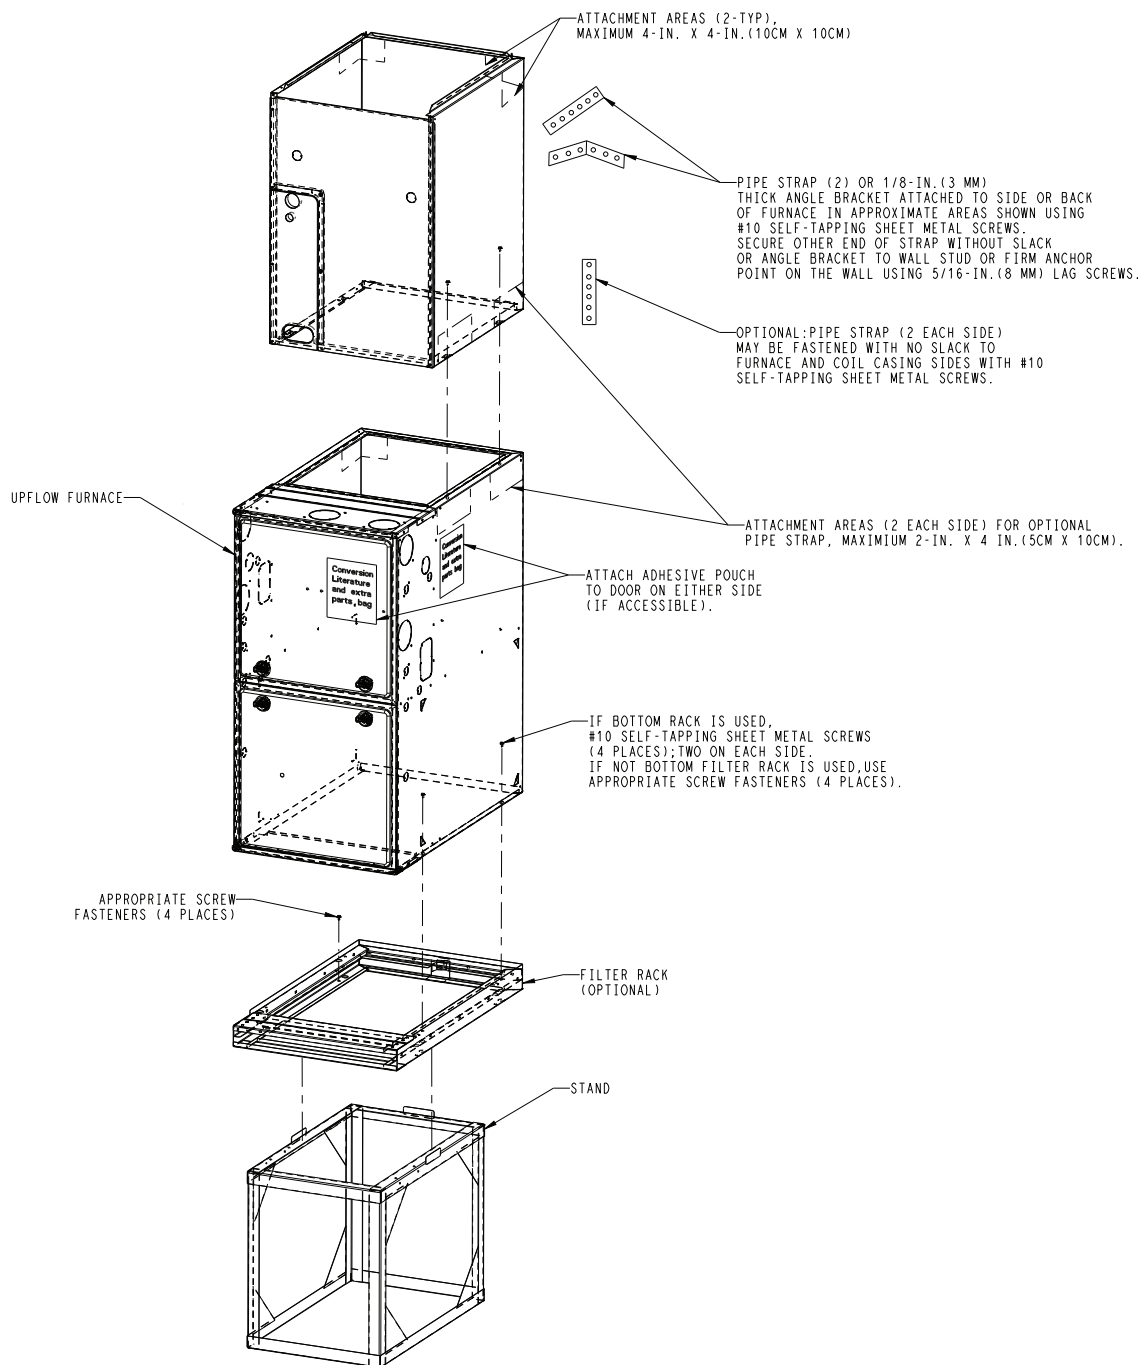
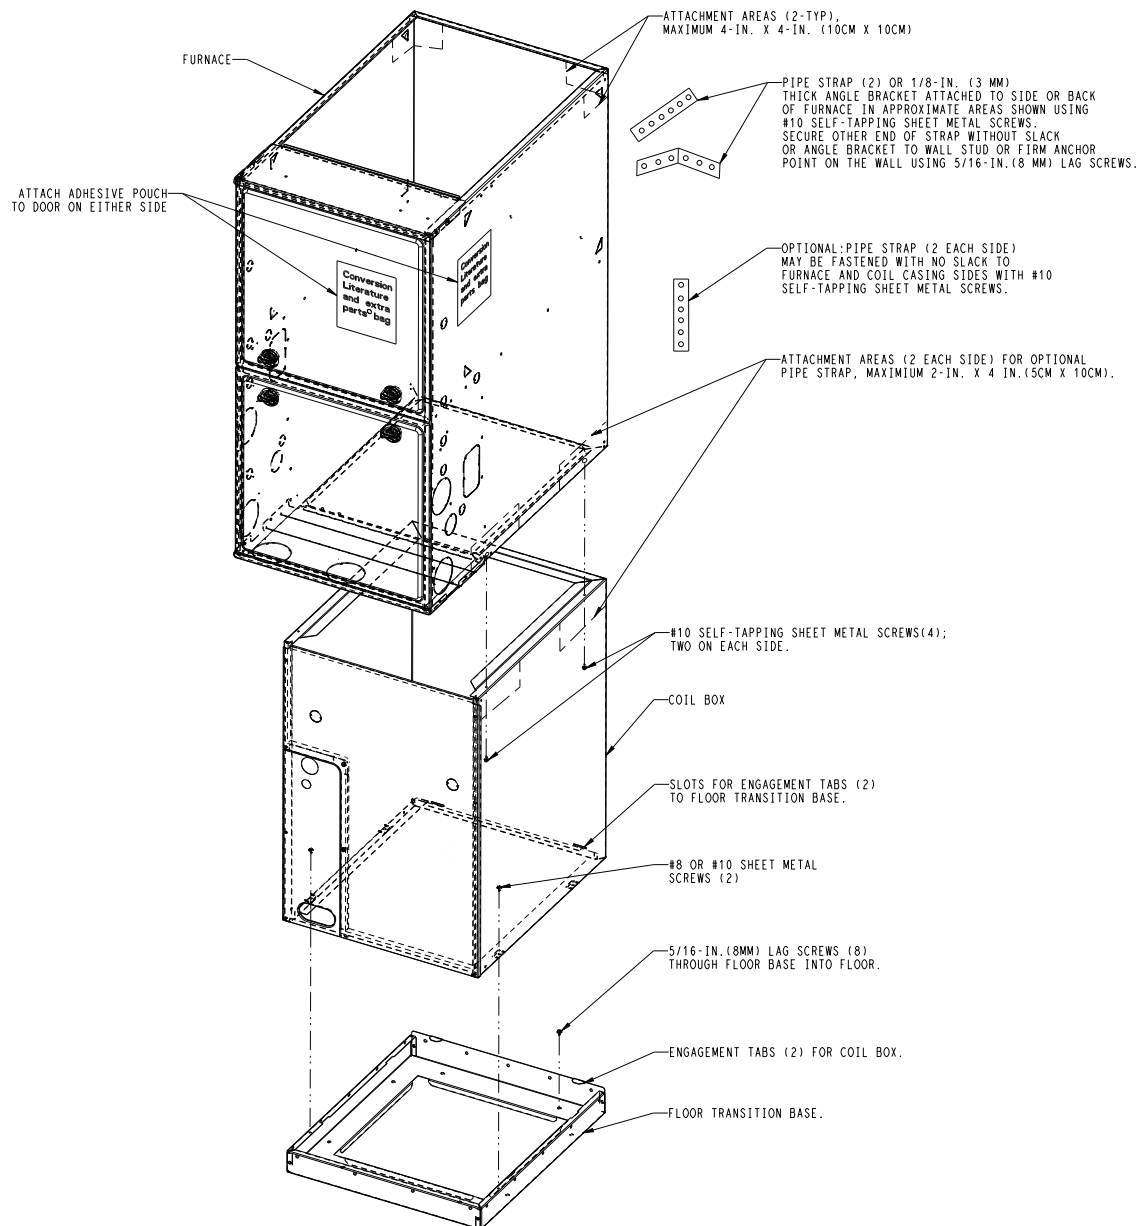

Fig. 25 – Upflow Overview
Fig. 26 – Downflow Overview
2. Assemble the coil and furnace to the transition base using the specified hardware. See Fig. 25 and Fig. 26.
- a. Secure the coil casing to the floor transition base using two (2) #10 x 1/2 in (min) sheet metal screws in the locations provided.